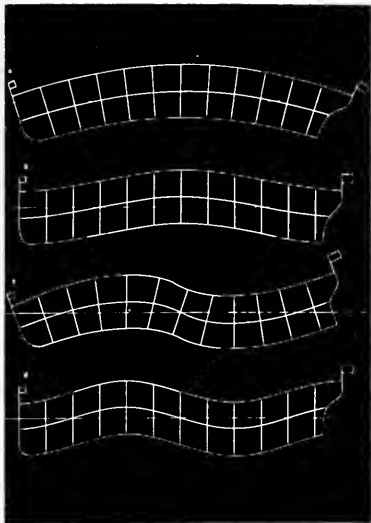

Fig. 2
(2) Experiments with floating rectangular bars as well as with ship's models indicate that the presence of the water increases the bar's inertia from 30 to 50 per cent, depending on the draft and on the shape of the bar. If a 40 per cent increase in equivalent mass be assumed, the natural frequency of the floating bar becomes  $2 \times 1 / \sqrt{1.40} = 1.69$  cycles per second, or about 100 vibrations per minute.
(3) The fundamental up and down vibration mode of the 600 ft. floating bar will then be a harmonic vibration of 100 vibrations per minute with two nodal points located 134.4 feet from the ends of the bar, and with end motions or amplitudes 65 per cent greater than the amplitude at the center. See Fig. 2 (a). This motion can be excited by a vibration generator located anywhere off the two nodes, or by an unbalanced propeller revolving at 100 rpm.
(4) The second mode or three noded vibrational mode of the 600 ft. floating bar will occur at 276 vibrations per minute with one nodal point at the center and with the other two at 0.132 L or 79.2 feet from the ends. The amplitudes at the ends
will be 51 per cent greater than the maximum amplitudes of the loops. See Fig. 2 (c). This mode can be excited by a 3 bladed propeller revolving at  $276/3 = 93$  rpm or by a 4 bladed propeller at  $276/4 = 69$  rpm.
(7) More or less rigorous methods are available for solving the above mentioned problem, but they all involve considerable work. For a uniform bar, the shear distortional curves, unlike the flexural, are sinusoidal with zero slopes at the ends. A comparison of the two types is shown in Figs. 2 and 3. It is seen that the locations of the nodal points of the two types of curves are not too far apart. This means that reasonable estimates can be made about the vibrational configurations, and natural frequencies resulting from the simultaneous action of flexural shear stiffnesses.
(8) Assume, for instance, that the ratio of the maximum shear distortion to the midpoint flexural distortion of the fundamental mode is 0.20. The lowering of the natural frequency of this mode due to shear will then be given approximately by  $1 / \sqrt{1.2} = .91$ ; that is, the 100 vibrations per minute frequency of the 600 ft. floating bar will be reduced to 91 vibrations per minute.
(9) For the second mode curve the ratio of the maximum shear distortion to the maximum flexural loop distortion will be  $0.20 \times (3/2)^2 = 0.45$  giving a frequency ratio of  $1 / \sqrt{1.45} = .83$ , which means that